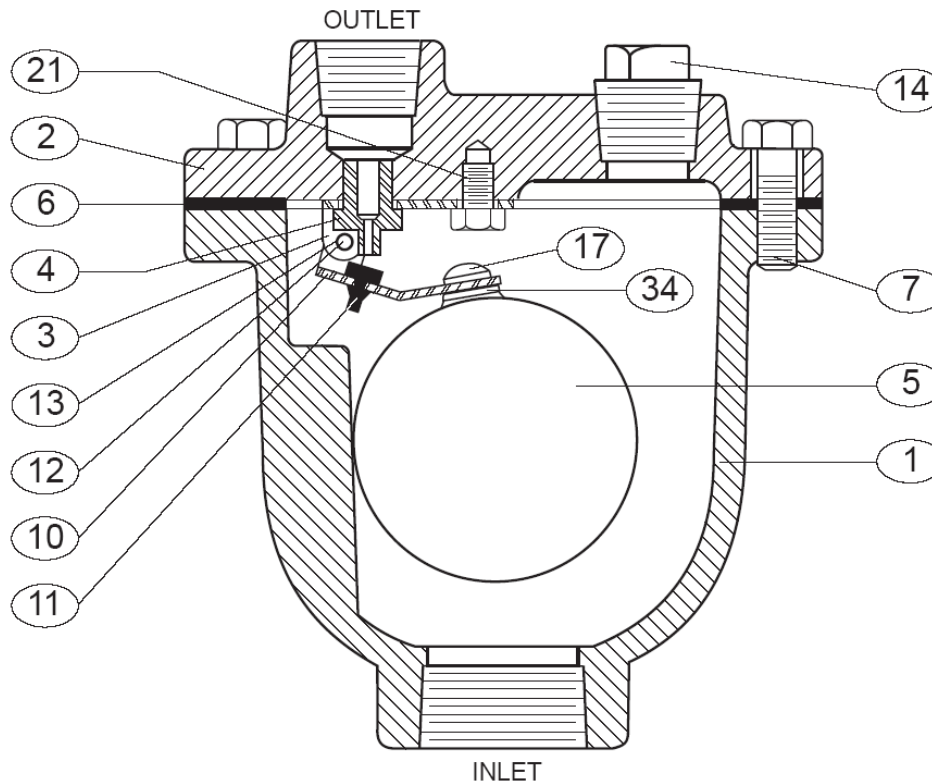

FIGURE 2. Simple Lever AIR RELEASE VALVE
The standard Air Release Valve body and cover are cast iron. See the specific Materials List submitted for the order if other than standard cast iron construction. All internal components are stainless steel with the exception of the orifice button which is resilient. The general details of construction are illustrated in Figure 2. The body (1) is threaded for connection to the pipeline. The seat (4) is threaded into the cast cover (2).
The valve can be disassembled without removing it from the pipeline. Or for convenience, the valve can be removed from the line. All work on the valve should be performed by a skilled mechanic with proper tools. No special tools are required. Refer to Figure 2.
All parts must be cleaned and gasket surfaces should be cleaned with a stiff wire brush in the direction of the serrations or machine marks. Worn parts, gaskets and seals should be replaced during reassembly. Refer to Figure 2 on page 2.